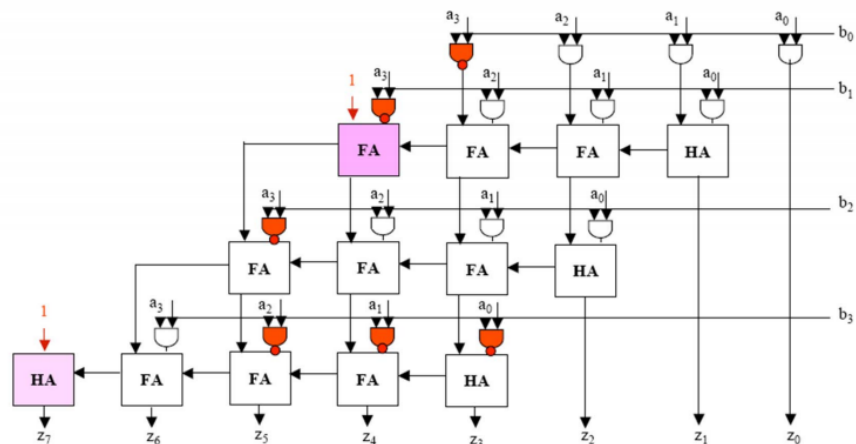

Figure 2: Example of 4-bit 2's Complement Multiplier
- Design a 5-bit 2's Complement Multiplier (the inputs are 5-bit 2's complement numbers and the outputs are 10-bit 2's complement number) in **layout**. Figure 2 shows the structure of a 4-bit 2's Complement Multiplier. Build a similar structure for a 5-bit 2's Complement Multiplier.